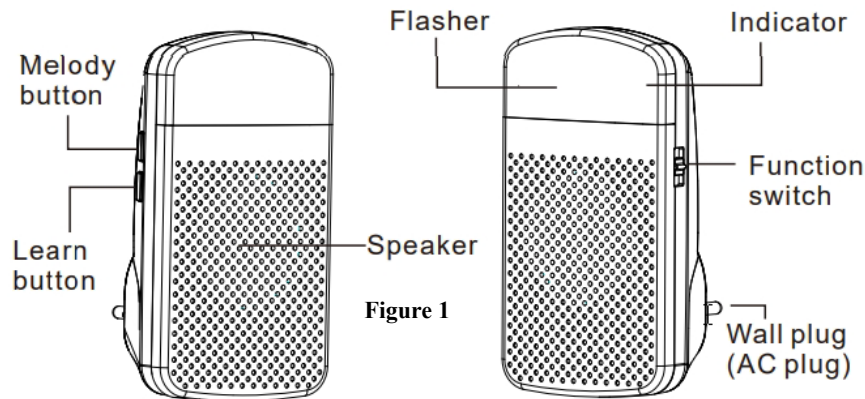

Figure 1
- The LRA-DCRXS-L has two zones. Each transmitter will occupy a zone. Once two (2) transmitters have been paired to a receiver, you cannot add one unless you delete the existing transmitters from memory.
- Assign one (1) of eighteen (18) available melodies to each transmitter.
- The LRA-DCRXS-L has three operational modes: strobe only, sound only, and strobe + sound (see Figure 1).
During regular operation, if you notice the red LED under the strobe lens (see "flasher in Figure 1) tends to stay on after the strobe flashes, this indicates you need to change the battery in a transmitter programmed to the receiver.
Ensure the function switch (see Figure 1) is set to sound mode for programming and plugged into a wall outlet and the battery is installed in the transmitter. A total of two transmitters may be paired with the LRA-DCRXS-L. The LRA-EXTX/EXTX-L counts as two transmitters if you pair the front & back door.
2. Press on hold the • learn button (see Figure 1) for three seconds. A red LED light will blink, indicating the receiver is in pairing mode (see important notes above). Release the • learn button once you notice the red LED.
6. Once you have completed programming, exit programming mode by pressing the • learn button (see Figure 1).
- Your wired doorbell should ding as usual & your LRA receiver should respond per the mode settings (see Figure 1).